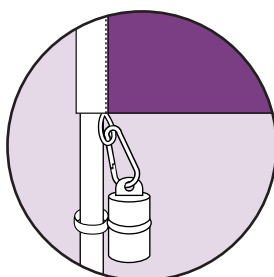

Fig 10.
12. Attach the weight onto the rope loop at the bottom of the flag. (Fig 10)